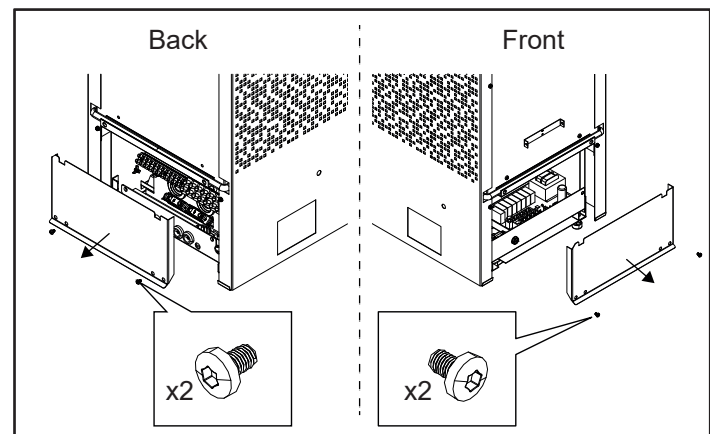

Fig 8: Open the front and back hatch
2. Undo the screws and open the front and back hatch, figure 8.
7. Push back the drawer, put back the front and back hatch, (see figure 8)